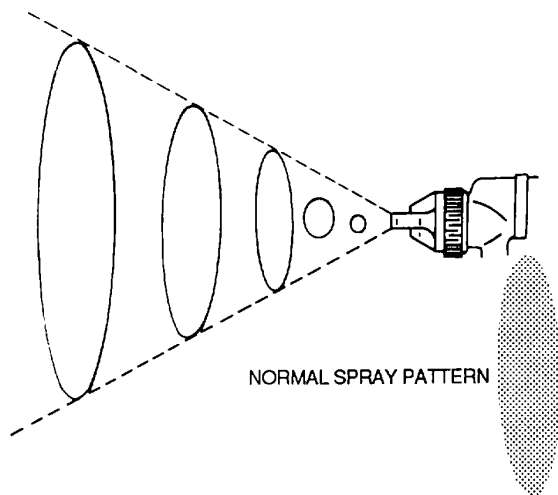

Figure 5-2. Spray Pattern
(1) *Setting the spray pattern.* The spray pattern is variable from round to a vertical, flat, oval pattern, with all patterns in between, as shown in figure 5-2. The vertical fan-shaped pattern gives maximum